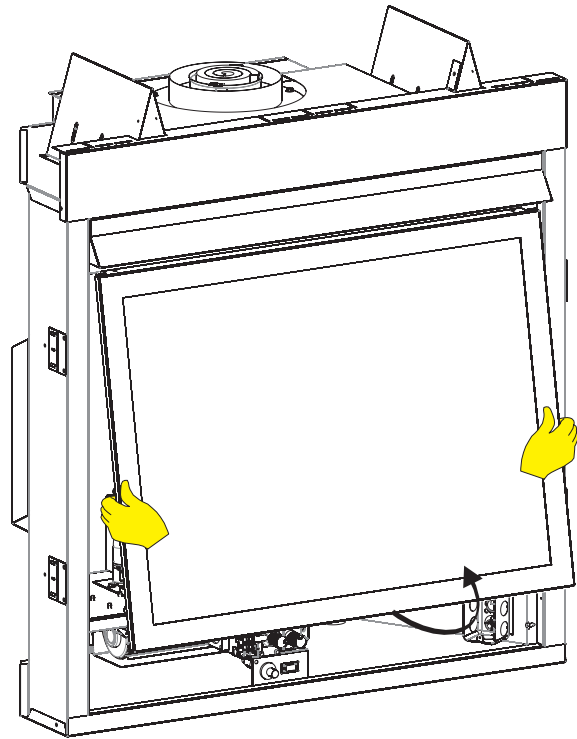

Figure 83
5. Move your hands to the sides of the glass frame and lift it up and away from the fireplace. **See Figure 83.**